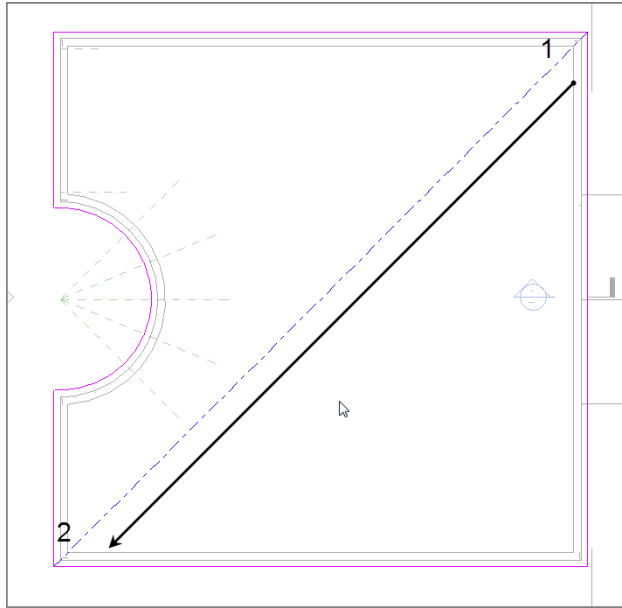

FIGURE 7.41: Adding the slope arrow
2. Pick the corner at upper right and then the corner at lower left, as shown in Figure 7.41.